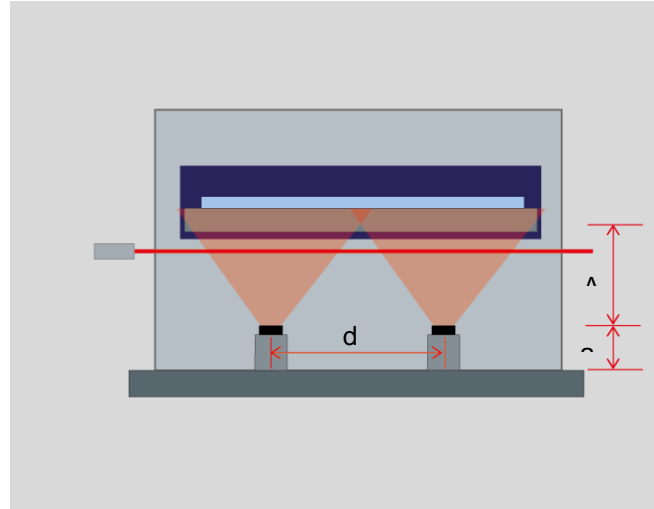
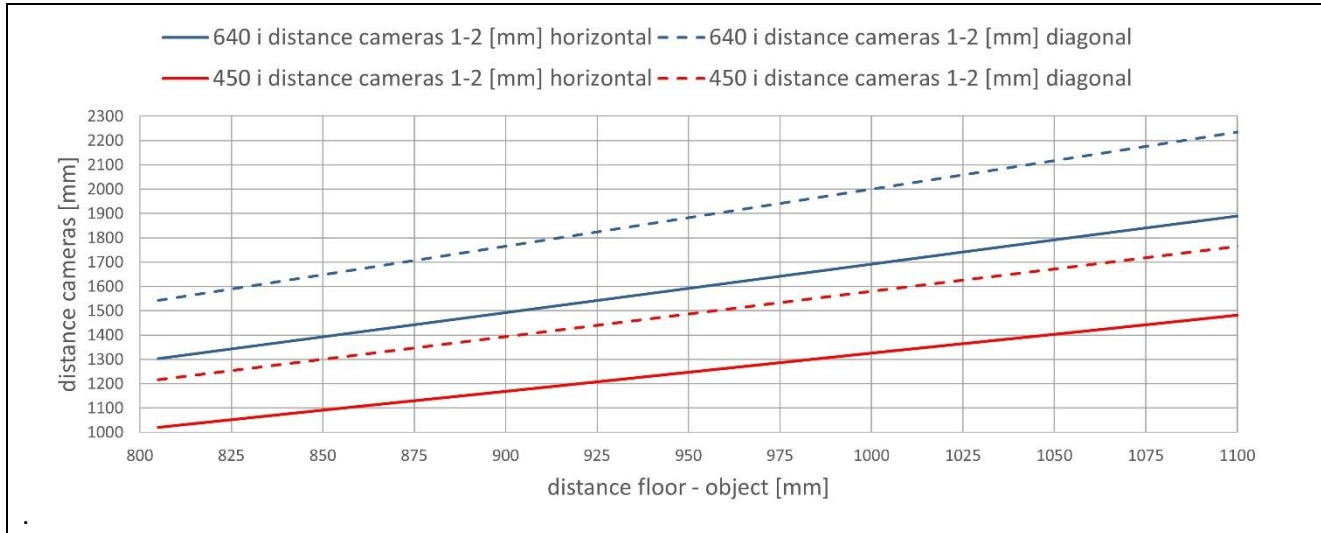

Figure 7: schematic representation of the distances
Figure 10: camera distance
Note: The focus of the optics is set at the factory to an object distance of 90 cm (camera lens to measurement object - **A** in **Figure 7**). The optics only must be focused if the distance is not equal to 90 cm. When refocusing the optics, the shutter must also be adjusted (see **chapter 3.1.3** on page **28**).
- The camera must be focused if the distance between the camera lens and the object (see **A** in **Figure 7**: schematic representation of the distances) is not equal to 90cm.
- Note the distance between the cameras (see **Figure 10** and **d** in **Figure 7**: schematic representation of the distances)
The width of the glass surface or the width of the oven should be covered by the scan line completely. The maximum width of the scan line depends on the distance between the camera lens and the measurement object (**A** in **Figure 7**) and on the selected configuration – diagonal or horizontal setup.
The following diagram shows the maximum scan line width as a function of the distance from the ground to the object (a distance from the ground to the camera lens **a** in **Figure 7** of 155mm was assumed) and depending of a chosen system.
For the positioning of the cameras, the following diagram (see **Figure 10**) showing the distance between the cameras (**d** in **Figure 7**) depending on the chosen system (640i G7 vs. 450i G7 or horizontal vs. diagonal setup) and the distance ground to object (**a+A** in **Figure 7**) is used.
Once the cameras are positioned, they must be focused to the object. Focusing is not required at the object distance camera lens to measurement object (**A** in **Figure 7**) of 90cm, this distance is factory-focused.